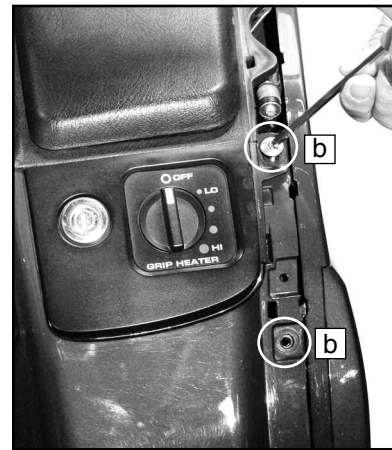

Figure 2
3. Remove Screws (b) (5mm Hex Key). **Figure 2**